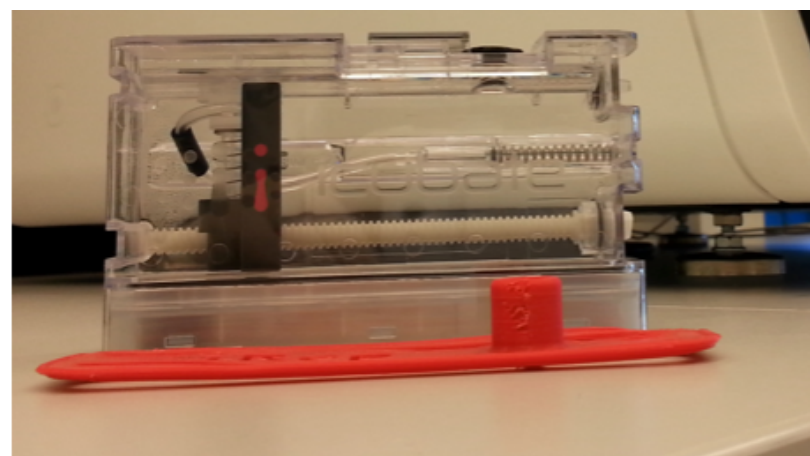

Figure 3: Orientation of iRep magnetic stand and the cassette.
8. Place the cassette on the iRep magnetic stand. Ensure that the PCR well is fitted onto the slot with the magnet before proceeding (see Figure 3).